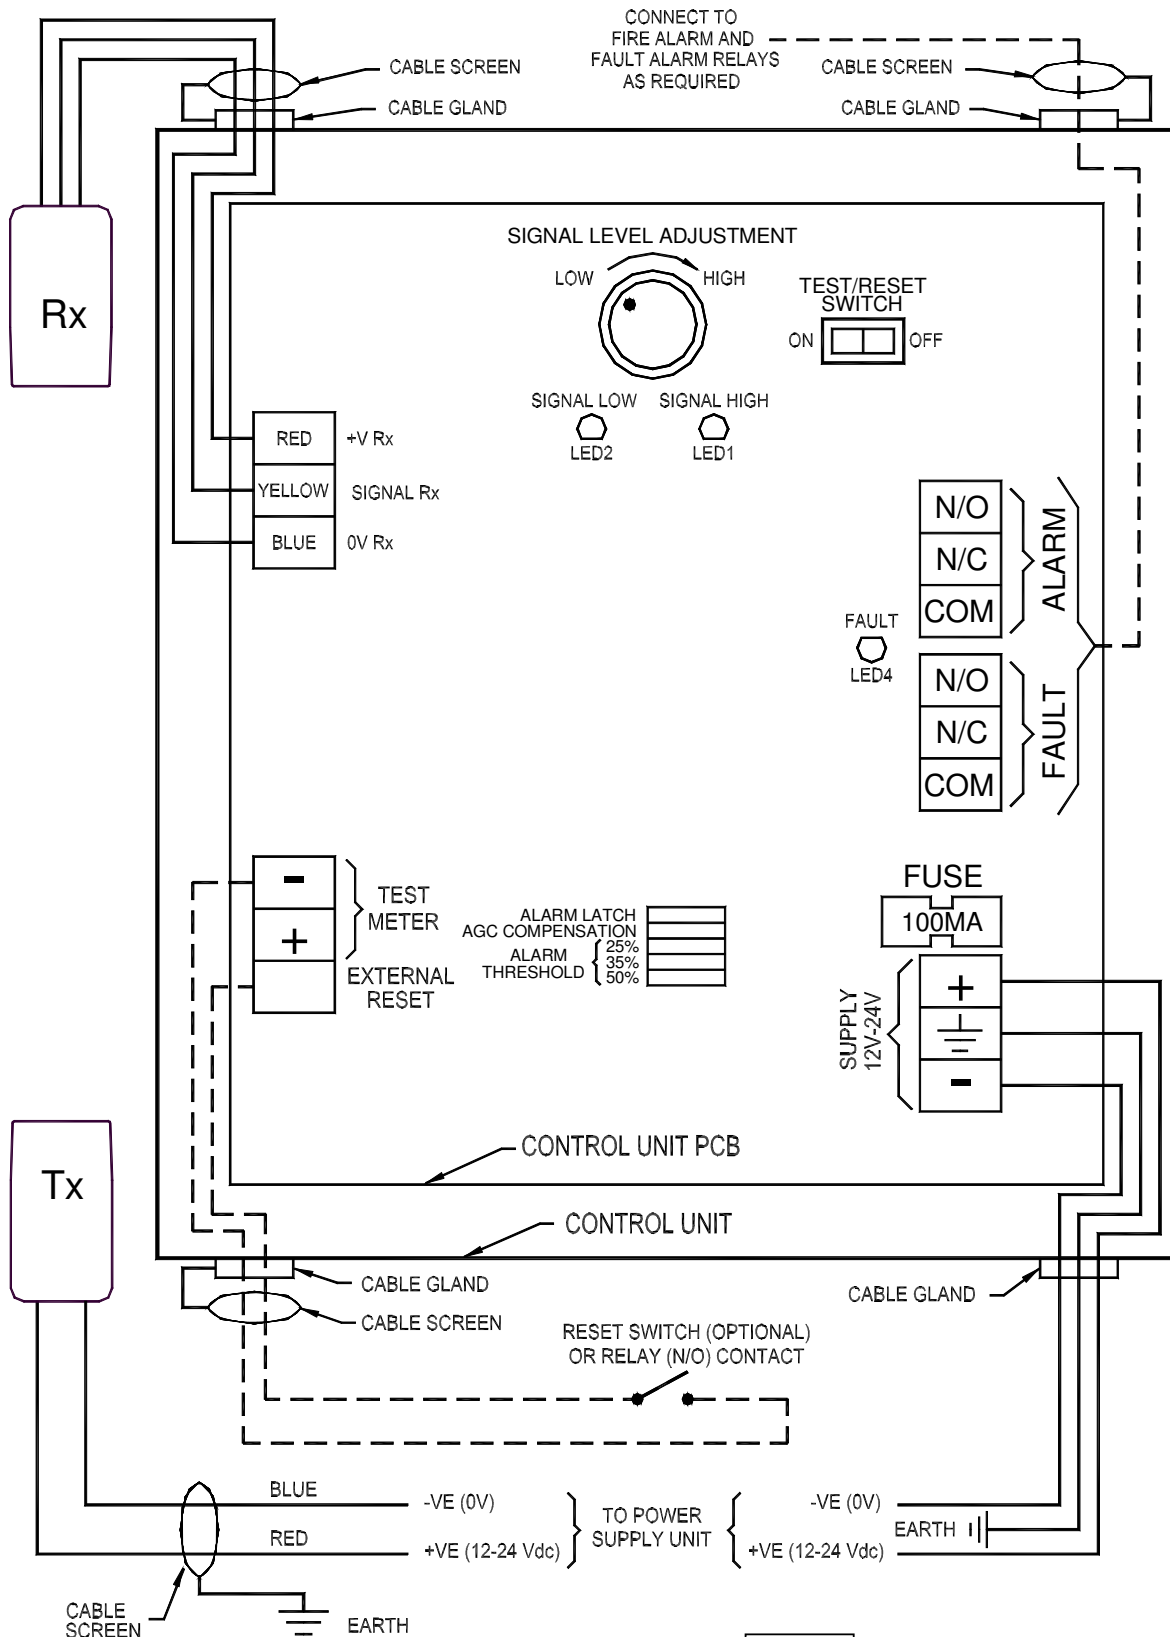

Fig 8
5. Wire the Receiver to the Control Unit using not less than 5 metres and no more than 100 metres of good quality 3 core screened cable, make sure all junction boxes used are metal and terminated with the cable screen. At the Control Unit terminate the screen at the entry gland (See fig 8 for details)
2. Wire the Transmitter to a power supply (See fig 8 for details).